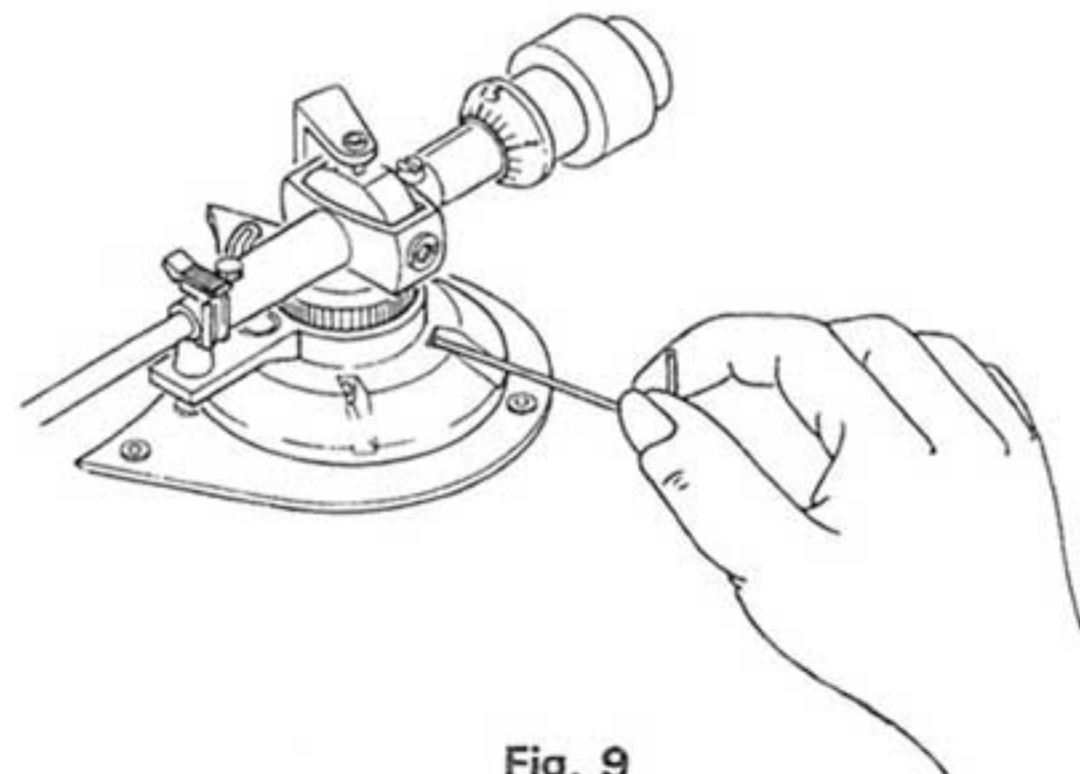

Fig. 9
2. With the stylus tip level with the record surface, adjust the tonearm height by loosening the fixing screws as shown in Fig. 9 so that the arm is horizontal.